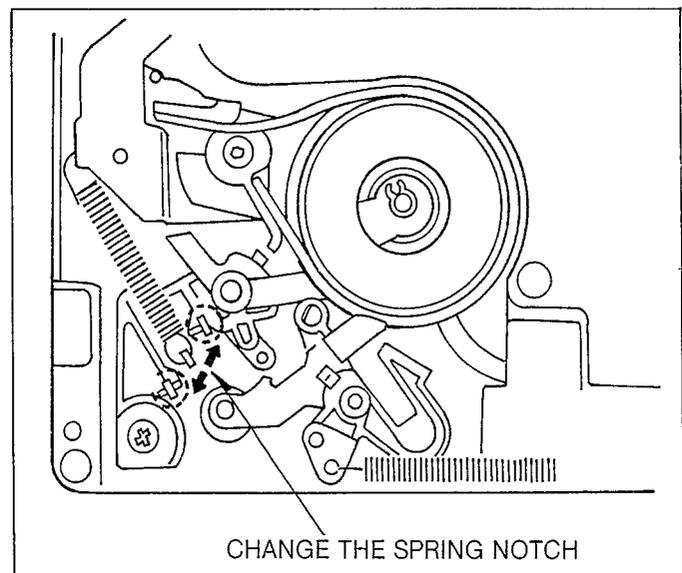

Fig. M5
3. If it is out of specification, change the spring notch as shown in Fig. M5.